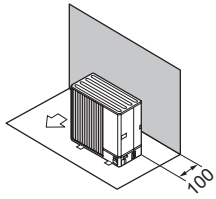

Fig. 4-24
- ① Obstacles at rear only (Fig. 4-24)